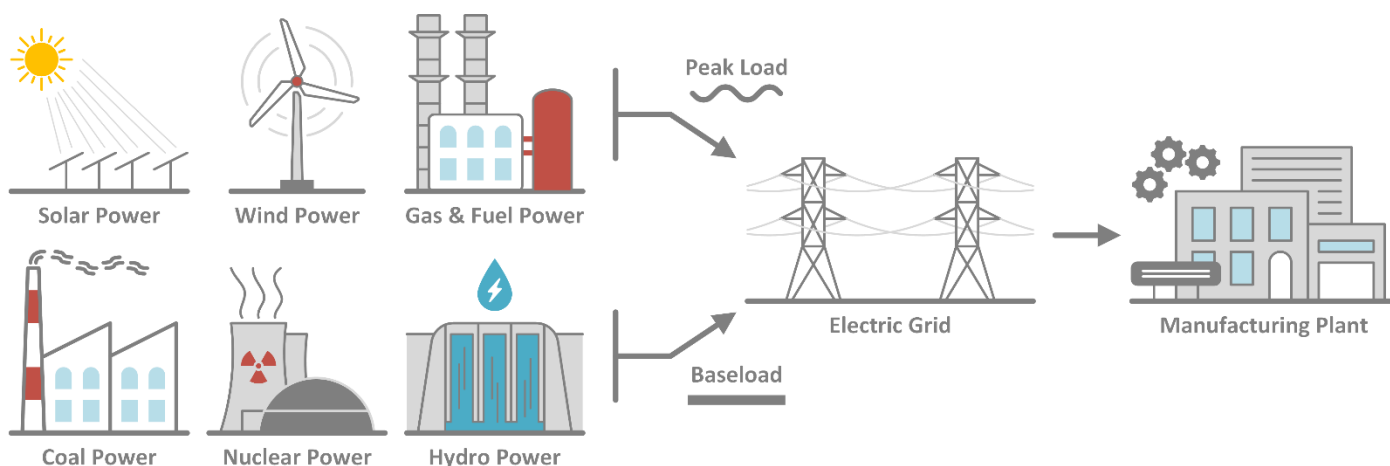

Figure 2: Baseload and peaking power plants supply electricity to the grid, which delivers electricity to your facilities.
The electricity that is supplied to your facilities comes from many different sources¹. The largest energy sources for electricity are fossil fuels (coal, natural gas, and petroleum), nuclear power, and renewables (e.g., wind, hydro, solar, biomass, geothermal). The relative amounts of each fuel source used have changed over the past few decades, with natural gas displacing coal-fired power plants and heavy investment in renewable energy, particularly wind and solar. Power plants generate alternating current (AC) power by converting energy sources into electricity. Most power plants use energy from fuels, moving air/water, or underground heat to create steam that powers electric generators. Photovoltaics create direct current (DC) electricity that is converted to AC through an inverter. All of this power is delivered first to the electrical grid and then ultimately to your manufacturing plants (Figure 2).